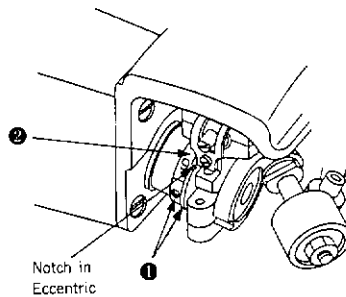

Fig. 9
12. Regulating Stitch Length (Fig. 9)